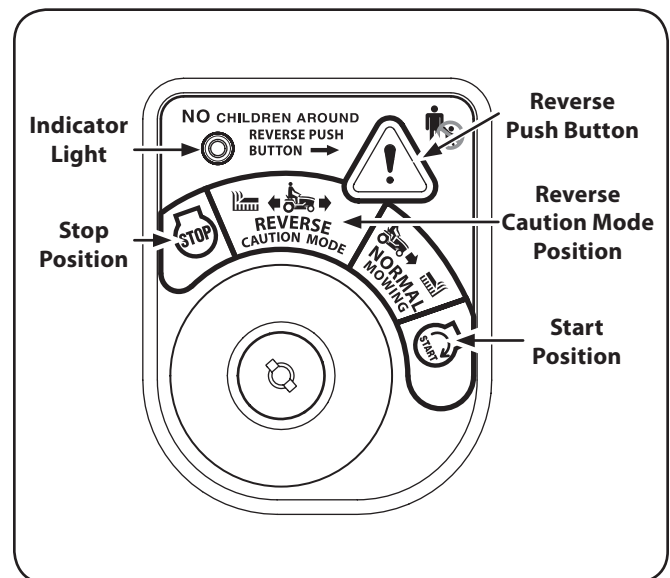

Figure 5-3
2. Turn the key from the NORMAL MOWING (Green) position to the REVERSE CAUTION MODE (Yellow) position of the key switch module. See Fig. 5-3.
3. Press the REVERSE PUSH BUTTON (Orange, Triangular Button) at the top, right corner of the key switch module. The red indicator light at the top, left corner of the key switch module will be ON while activated. See Fig. 5-3.